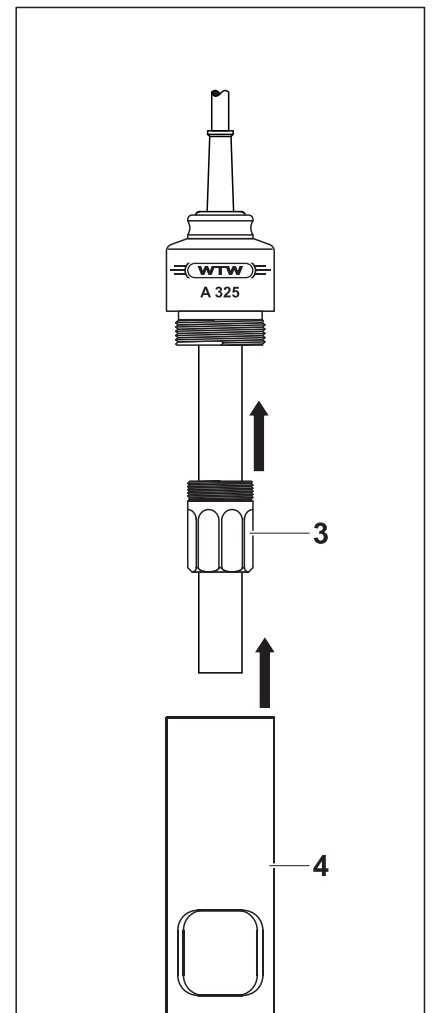

Figure 3
4	Push back the sensor into the armature as far as it will go (figure 3).
5	Slide the coupling ring (pos. 3 in figure 3) on the sensor and screw it into the armature by hand.
6	Screw on the protective hood (pos. 4 in figure 3).